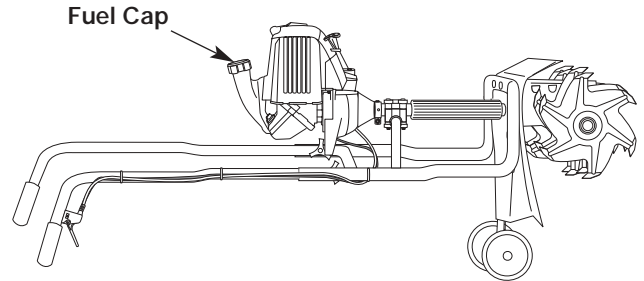

Fig. 9
1. Remove fuel cap (Fig. 9). Remove the tag from the fuel tank neck.
**NOTE:** Fill or add fuel to the tank only when the cultivator is in a horizontal position (Fig. 9).